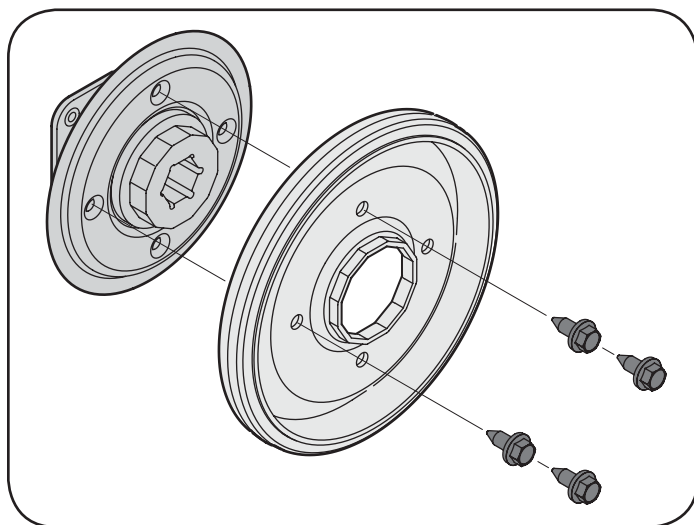

Figure 32
7. Remove four screws securing the friction wheel rubber between the friction wheel plates. See Figure 32. Discard old rubber.